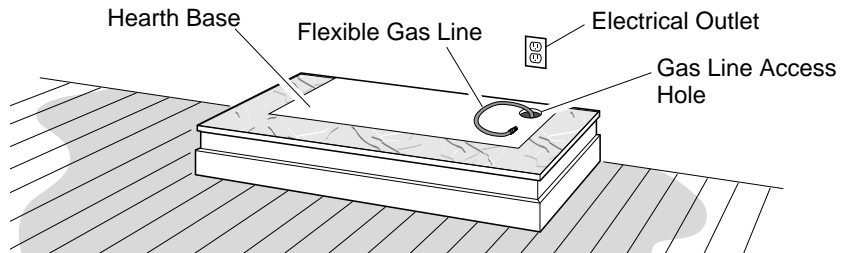

Figure 9 - Placing Hearth Base Accessory Against Wall
2. When installing blower, install a properly grounded, 120 volt three-prong electrical outlet at fireplace location if an outlet is not there. If possible, locate outlet so cabinet mantel will cover it when installed (see Figure 9, page 12).
4. Place hearth base accessory against wall at installation location. Cut an access hole in hearth top to run flexible gas line to fireplace (see Figure 9). Make sure to locate access hole so cabinet mantel will cover it when installed. *Note:* You can secure base to floor using wood screws. Countersink screw heads and putty over.